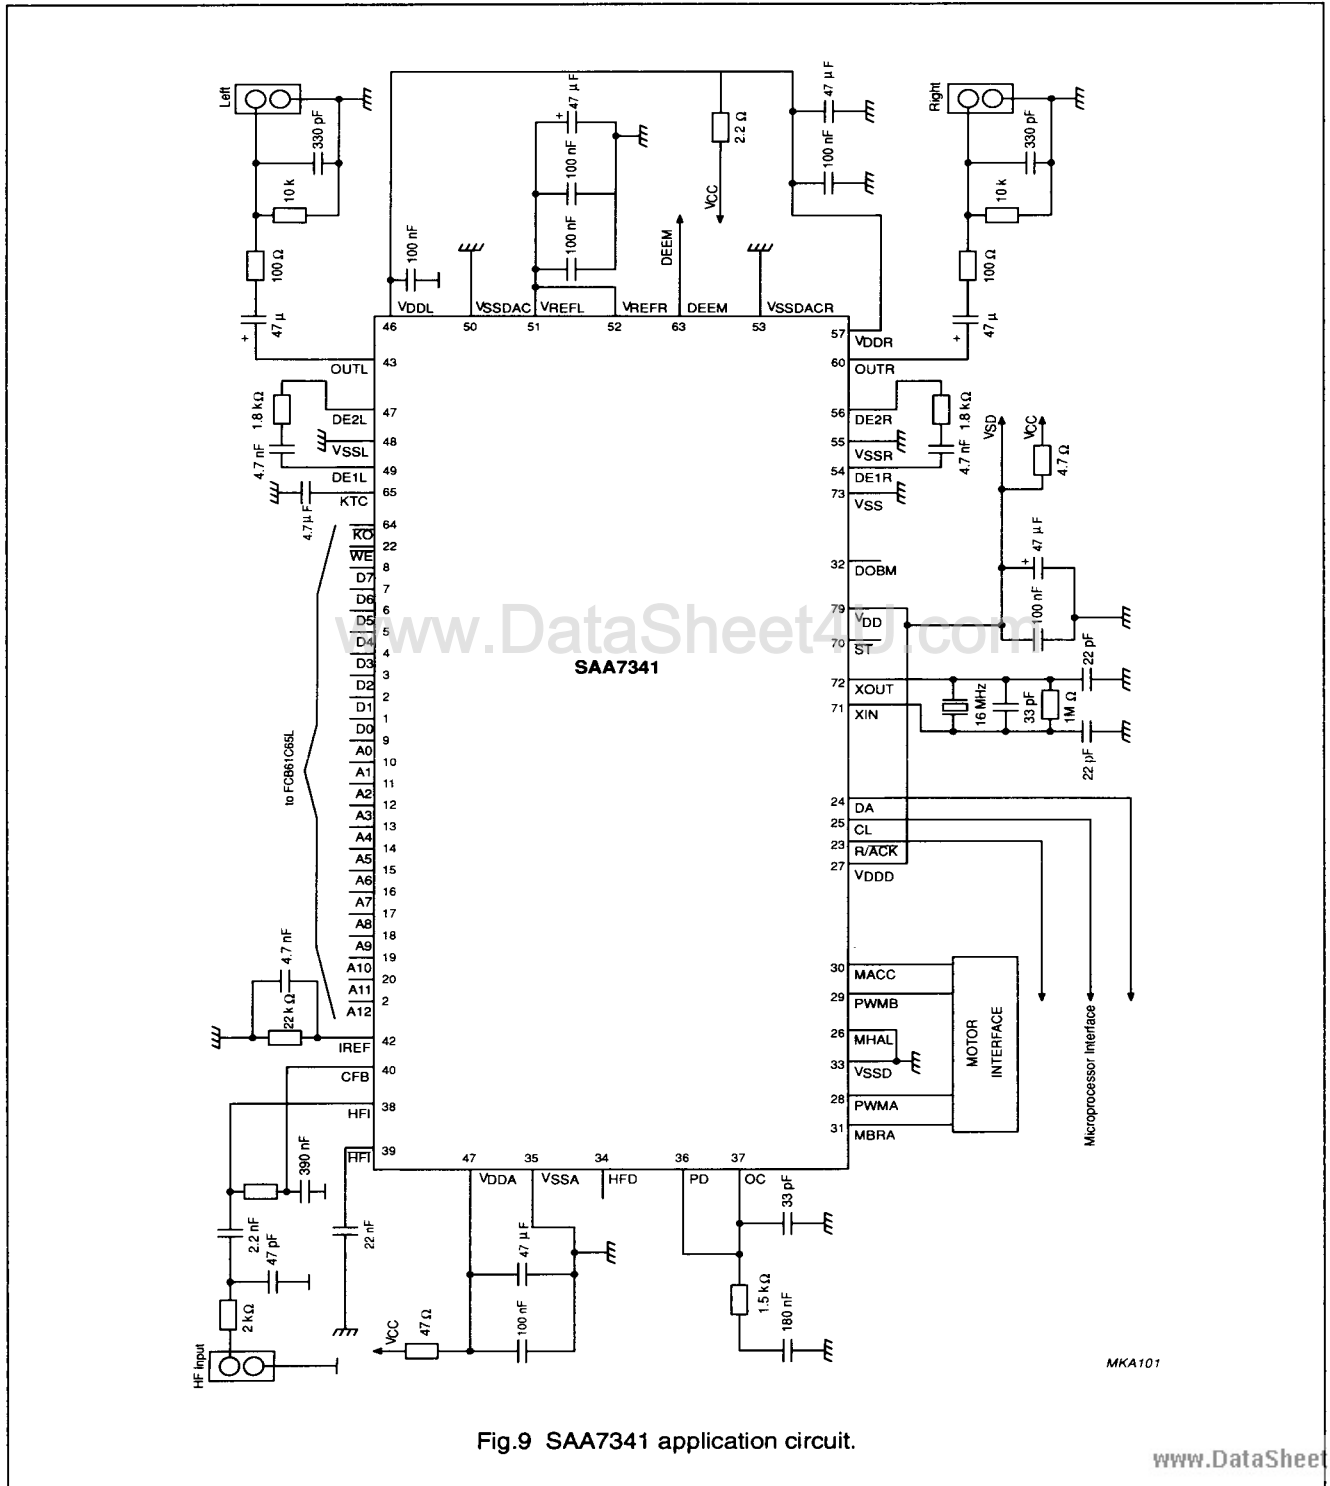

Fig.9 SAA7341 application circuit.
- Maximum load recommended on OUTL, OUTR, is 5 k Ω , 100 pF. Device measured with external components shown in recommended application diagram (Fig.9). Maximum digital code.